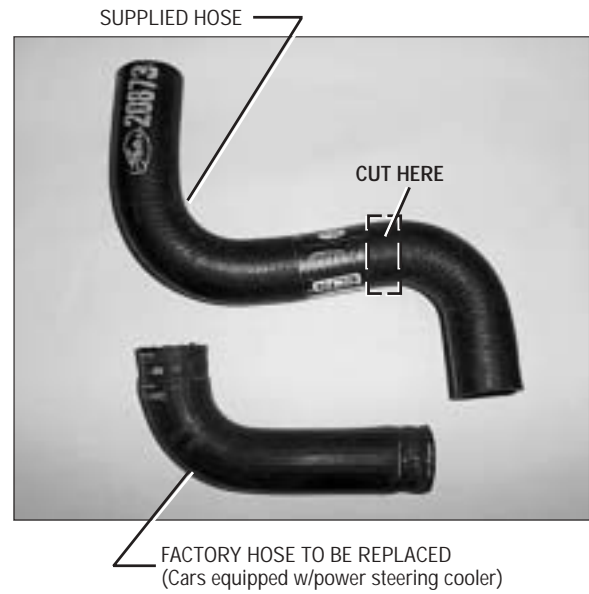

Fig. 6-a / Hose Modification
- C. Leaving the straight legs as long as possible, trim the supplied hose per *Fig. 6-a*.